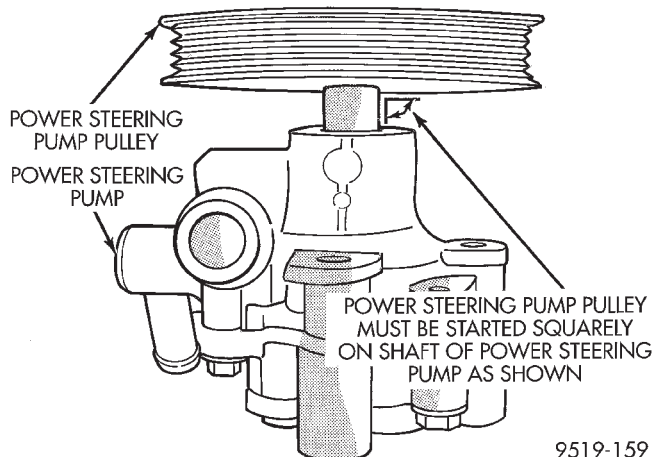

Fig. 48 Pulley Positioned On Shaft Of Power Steering Pump
(1) Mount power steering pump in a vise using the power steering pump mounting bracket.
(2) Place power steering pump pulley squarely on end of power steering pump shaft (Fig. 48).